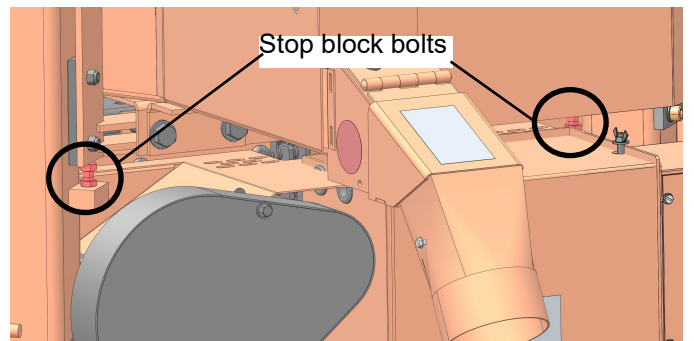

FIG. 4-17
12. Continue lowering the head 3/4" (19mm) until it contacts the stop blocks on the mast rails. See Fig. 4-17.